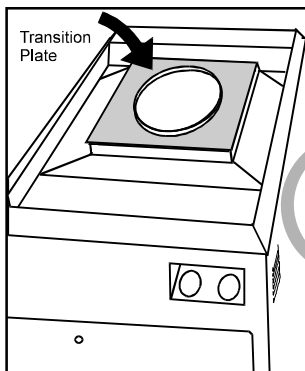

Figure 6.
6. Place transition plate (with 14" long side) securely on top of flue collector so flue gases will not leak (see Figure 6).